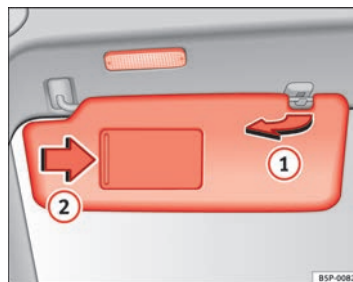

Fig. 82 Sun visor on the driver side
The sun visors for the driver and the front passenger can be pulled out of their mountings in the centre of the vehicle and turned towards the doors → fig. 82 ①